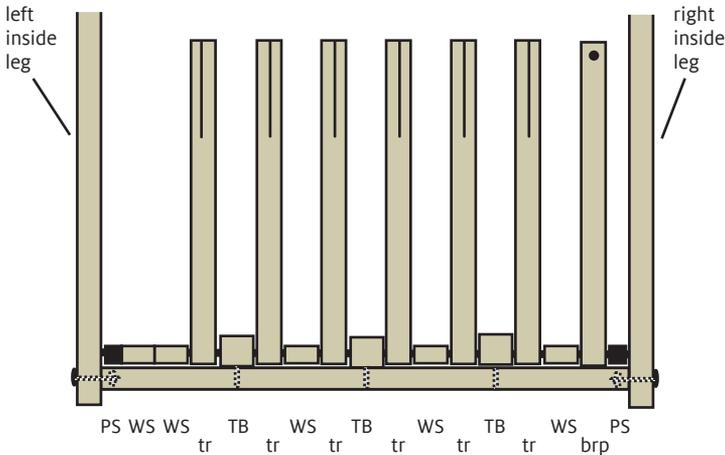

FIGURE 5: TREADLE ASSEMBLY
8. Using a #2 Phillips screwdriver, remove the 3 screws attaching the treadle blocks (TB) to the treadle support (Figure 5, page 4). Remove the metal treadle bar from the treadle support. Remove all parts from the metal treadle bar, saving the plastic spacers (PS), treadle blocks (TB), and wooden spacers (WS) for the next step.
(brp) onto the metal treadle bar with the parts saved from Step 11. Parts go in the following order (from left to right of the loom front, shown in Figure 5): PS, WS, WS, tr, TB, tr, WS, tr, TB, tr, WS, tr, TB, tr, WS, brp, PS.